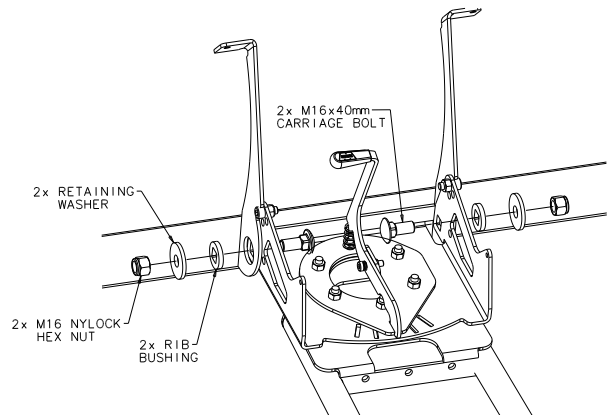

Figure 3 Attach Blade to Tube Base
4. Attach the plow blade to the plow base as shown in figure 3. Run a 16mm dia carriage bolt through the large retaining washer, rib bushing, then through the plow blade and base. The rib bushing should rest inside the large hole in the side of the plow. Terminate with a 16mm dia lock nut. Back off the torque if the plow blade doesn't rotate freely around the plow base.